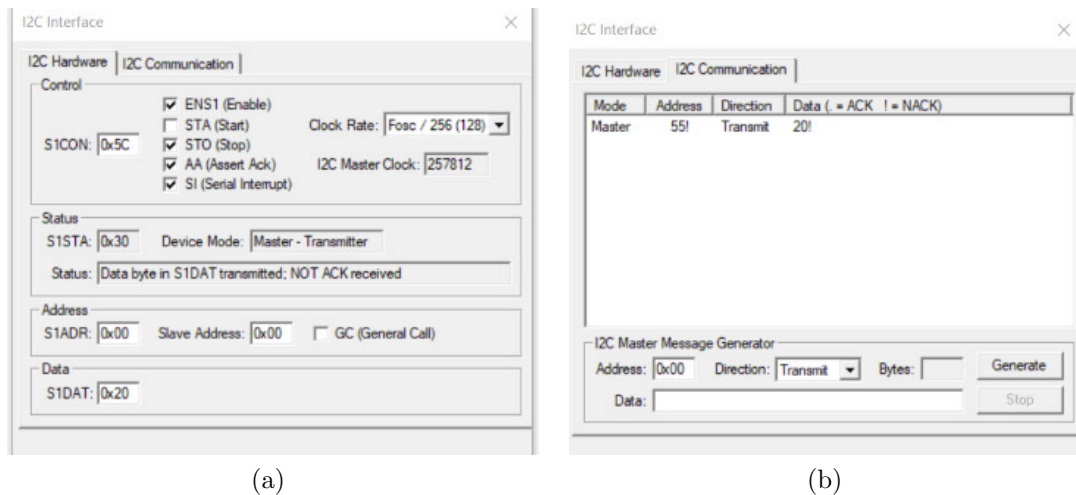

Figure 1.17: Figure showing **I2C Interface**
**Conclusion** : We developed C code to transfer data on given memory address using I2C Communication using P89C660 microcontroller. The output for I2C Communication is shown in figure 1.17.